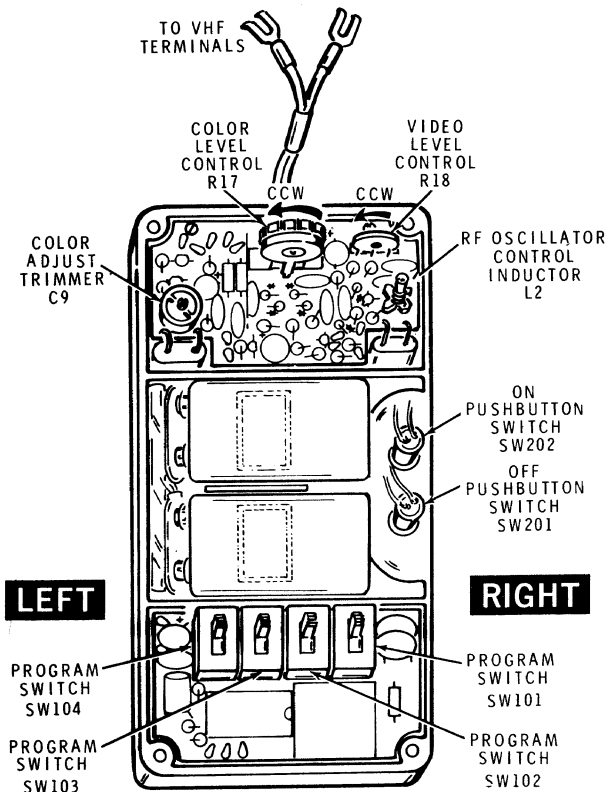

Figure 3
- ( ) Refer to Figure 3 and preset the controls and switches as follows: